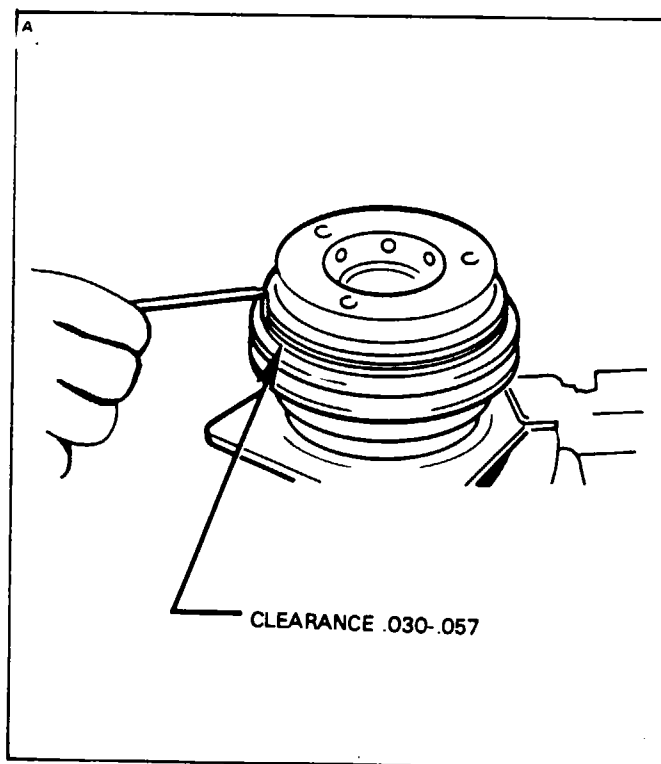

Figure 21-30. Checking Air Gap
11. Install the locknut, using a thin wall socket. Tighten to 15 foot-pounds torque. The air gap between the friction faces should now be between .030 to .057 inch clearance. (Refer to Figure 21-30.)